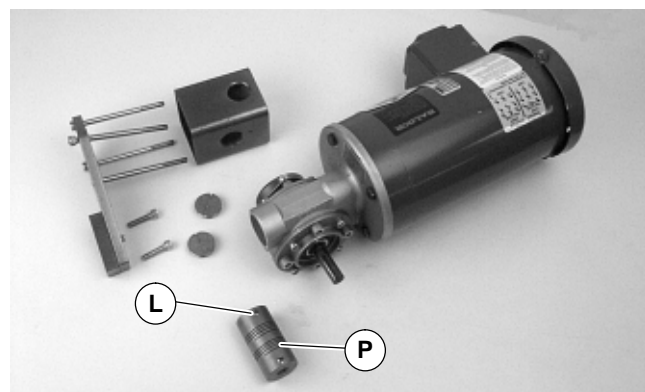

Figure 13
5. Loosen two (2) set screws (L of Figure 13) and detach coupling (P).
13. Attach coupling (P of Figure 13) to gear reducer shaft. Tighten two (2) set screws (L) to 3.7 Nm.